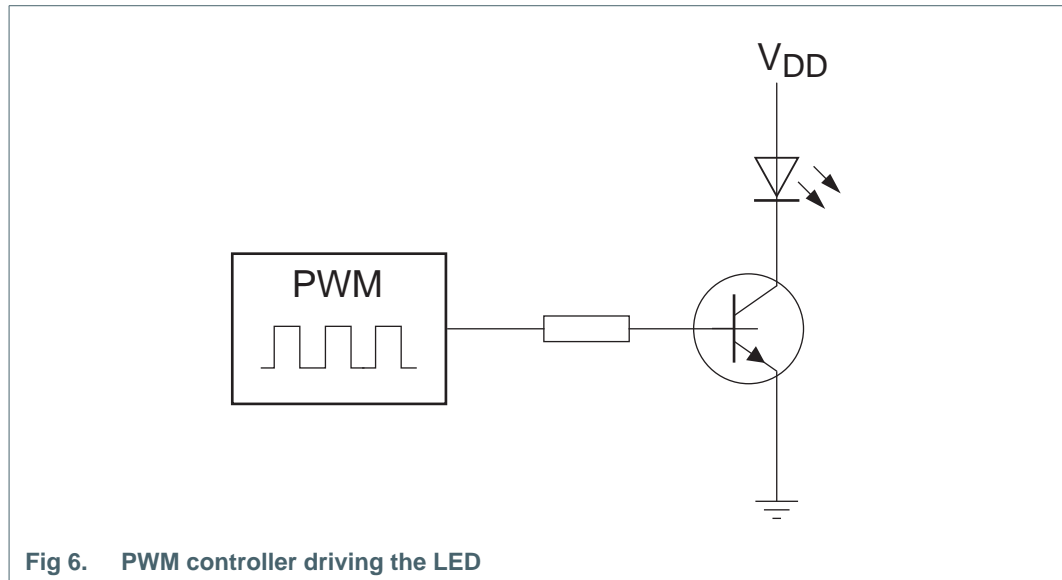

Fig 6. PWM controller driving the LED
- Fig 6. PWM controller driving the LED.6